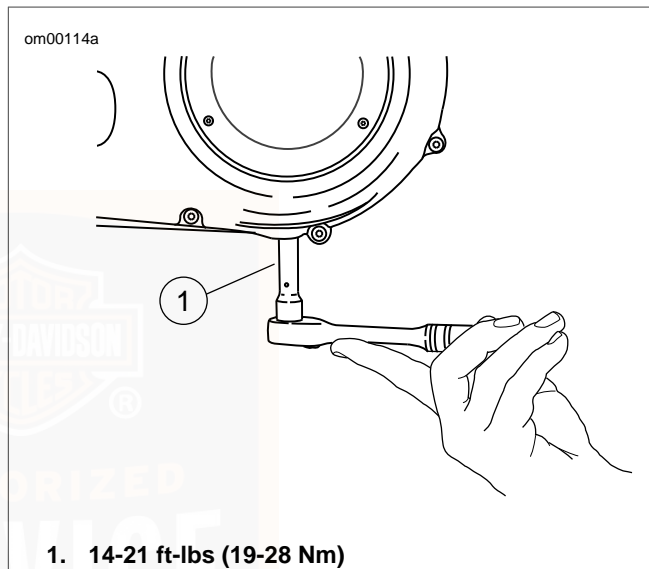

Figure 30. Removal/Installation of Chaincase Drain Plug
3. See Figure 30. Remove magnetic drain plug at bottom of inner primary chaincase cover. Drain lubricant into suitable container.